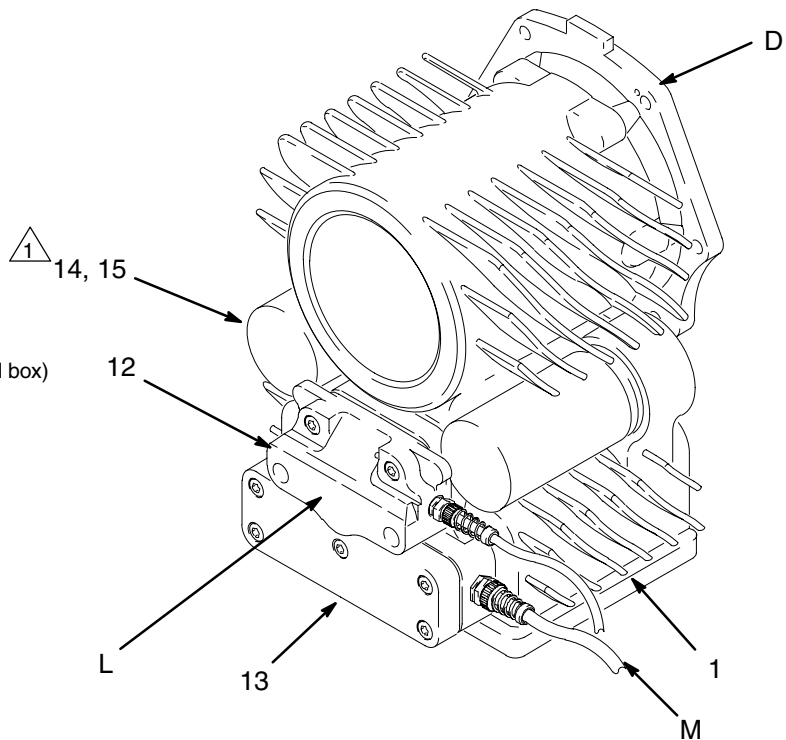

Fig. 1
Major components of the Triumph Electric Motor are the electronic control module (1), signal cover (12), power access cover (13), capacitors (15), torque control located on separate control box, power indicator (L), power inlet (M), and motor housing (D). See Fig. 1.